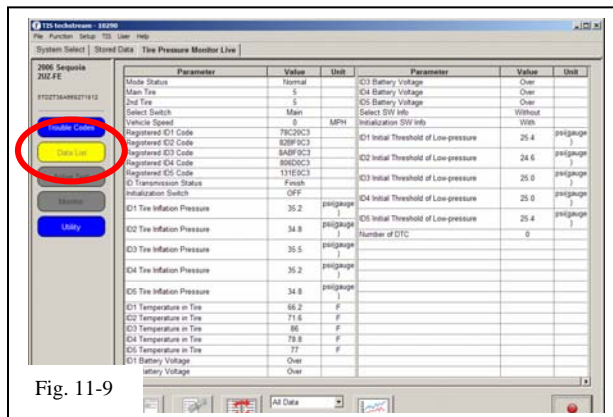

Fig. 11-9
- (l) Select “DATA LIST” to view and confirm the TPMS ID numbers have been correctly registered (Fig 11-9).